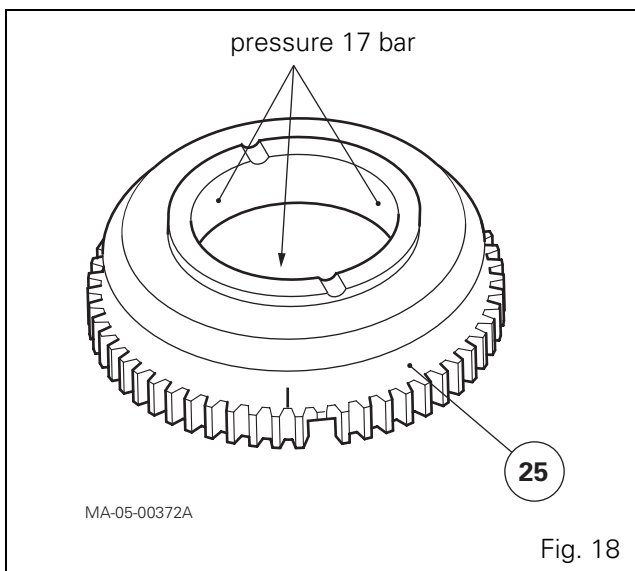
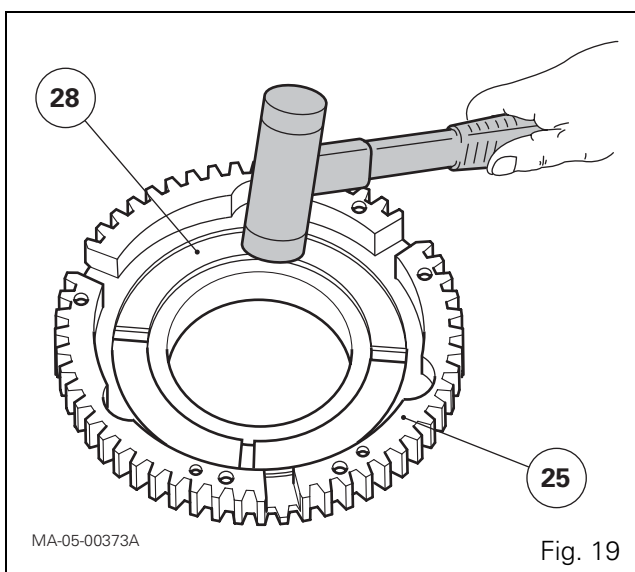

Fig. 18
Fig. 19
42. Make sure that the three holes of the 17-bar channel on the hydraulic cover plate (25) are not blocked (Fig. 18).
43. Fit the lubricated seals (26) and (29) and onto the piston (28).
46. Fit the piston (28) using a plastic hammer, gradually and alternately striking around the circumference of the piston (Fig. 19).